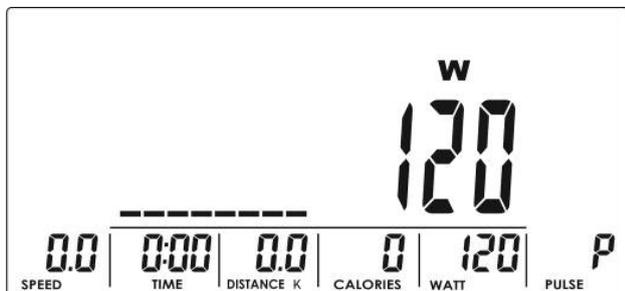

Figure 15
- (1) Select a training programme with the UP or DOWN buttons. Select W and confirm with MODE/ENTER.
- (2) Set the WATT target (default value: 120, fig. 15) with the UP or DOWN buttons.
- (3) Enter the time with the UP or DOWN buttons.
- (4) Press START/STOP to start the training. During the training, the system adjusts automatically the intensity level according to the pedalling speed to keep the wattage (resistance) constant. Adjust the target WATT level with the UP or DOWN buttons during the training.
- (5) Press START/STOP to pause the training. Press RESET to return to the main menu.